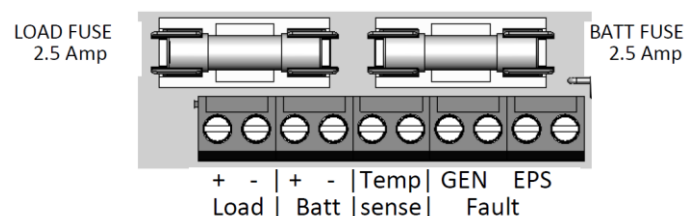

Figure 4 – Terminal labels
- 13) Connect the battery temperature sensor (two white wires) to the PCB terminals Temp Sense. See Figure 4. Wires can be connected either way around.